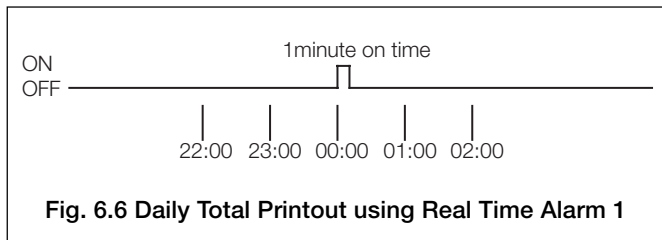

Fig. 6.6 Daily Total Printout using Real Time Alarm 1
6.2.8 Real Time Alarms 1 and 2 Configuration Page – Fig. 6.6
...6.2.8 Real Time Alarms 1 and 2 Configuration Page – Fig. 6.6
Select the frame required from the five frame types available (see Fig. 6.6, page 72):